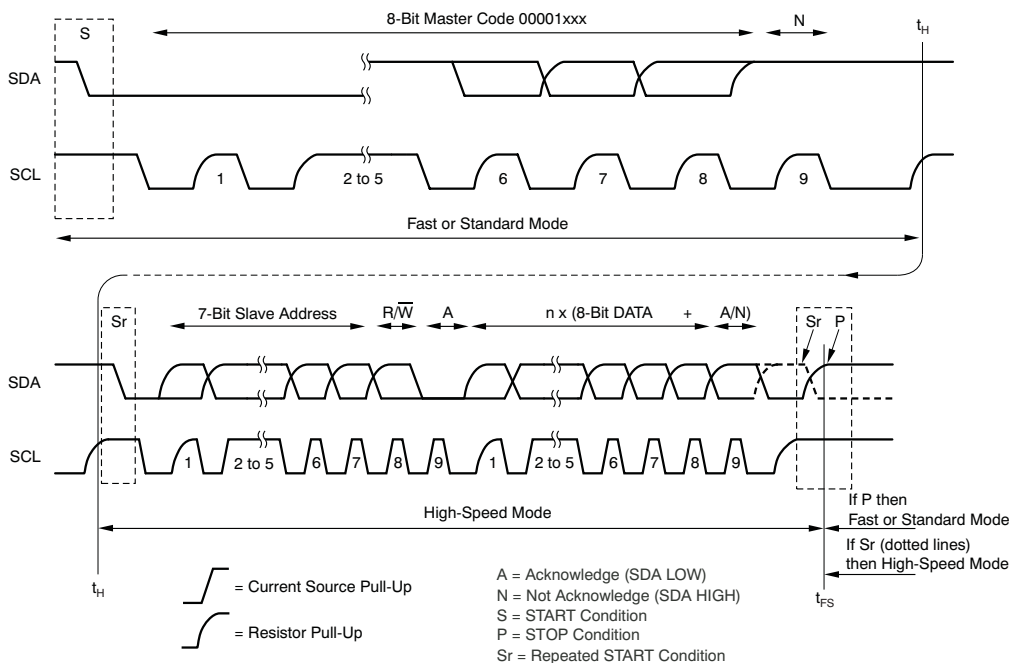

Figure 30. Complete High-Speed Mode Transfer
When the bus master sends the address byte with the  $\overline{\text{R/W}}$  bit = 0, and the TSC2007 sends an acknowledge, the pen-interrupt function is disabled. If the command that follows the address byte contains  $\text{PD0} = 0$ , then the pen-interrupt function is enabled at the end of a conversion. This action is approximately 100 $\mu\text{s}$  (12-bit mode) or 50 $\mu\text{s}$  (8-bit mode) after the TSC2007 receives a STOP/START condition, following the receipt of a command byte (see Figure 31 and Figure 30 for further details about when the conversion cycle begins).
1. START condition (S)
3. Not-acknowledge bit (N)
Figure 30 shows this sequence in more detail. Hs-mode master codes are reserved 8-bit codes used only for triggering Hs mode, and are not to be used for slave addressing or any other purpose. The master code indicates to other devices that an Hs-mode transfer is about to begin and the connected devices must meet the Hs mode specification. Because no device is allowed to acknowledge the master code, the master code is followed by a not-acknowledge bit (N).
After the not-acknowledge bit (N) and SCL have been pulled-up to a HIGH level, the master switches to Hs-mode and enables the current-source pull-up circuit for SCL (at time  $t_{H1}$  shown in Figure 30). Because other devices can delay the serial transfer before  $t_{H1}$  by stretching the LOW period of SCL, the master enables the current-source pull-up circuit when all devices have released SCL, and SCL has reached a HIGH level, thus speeding up the last part of the rise time of the SCL.